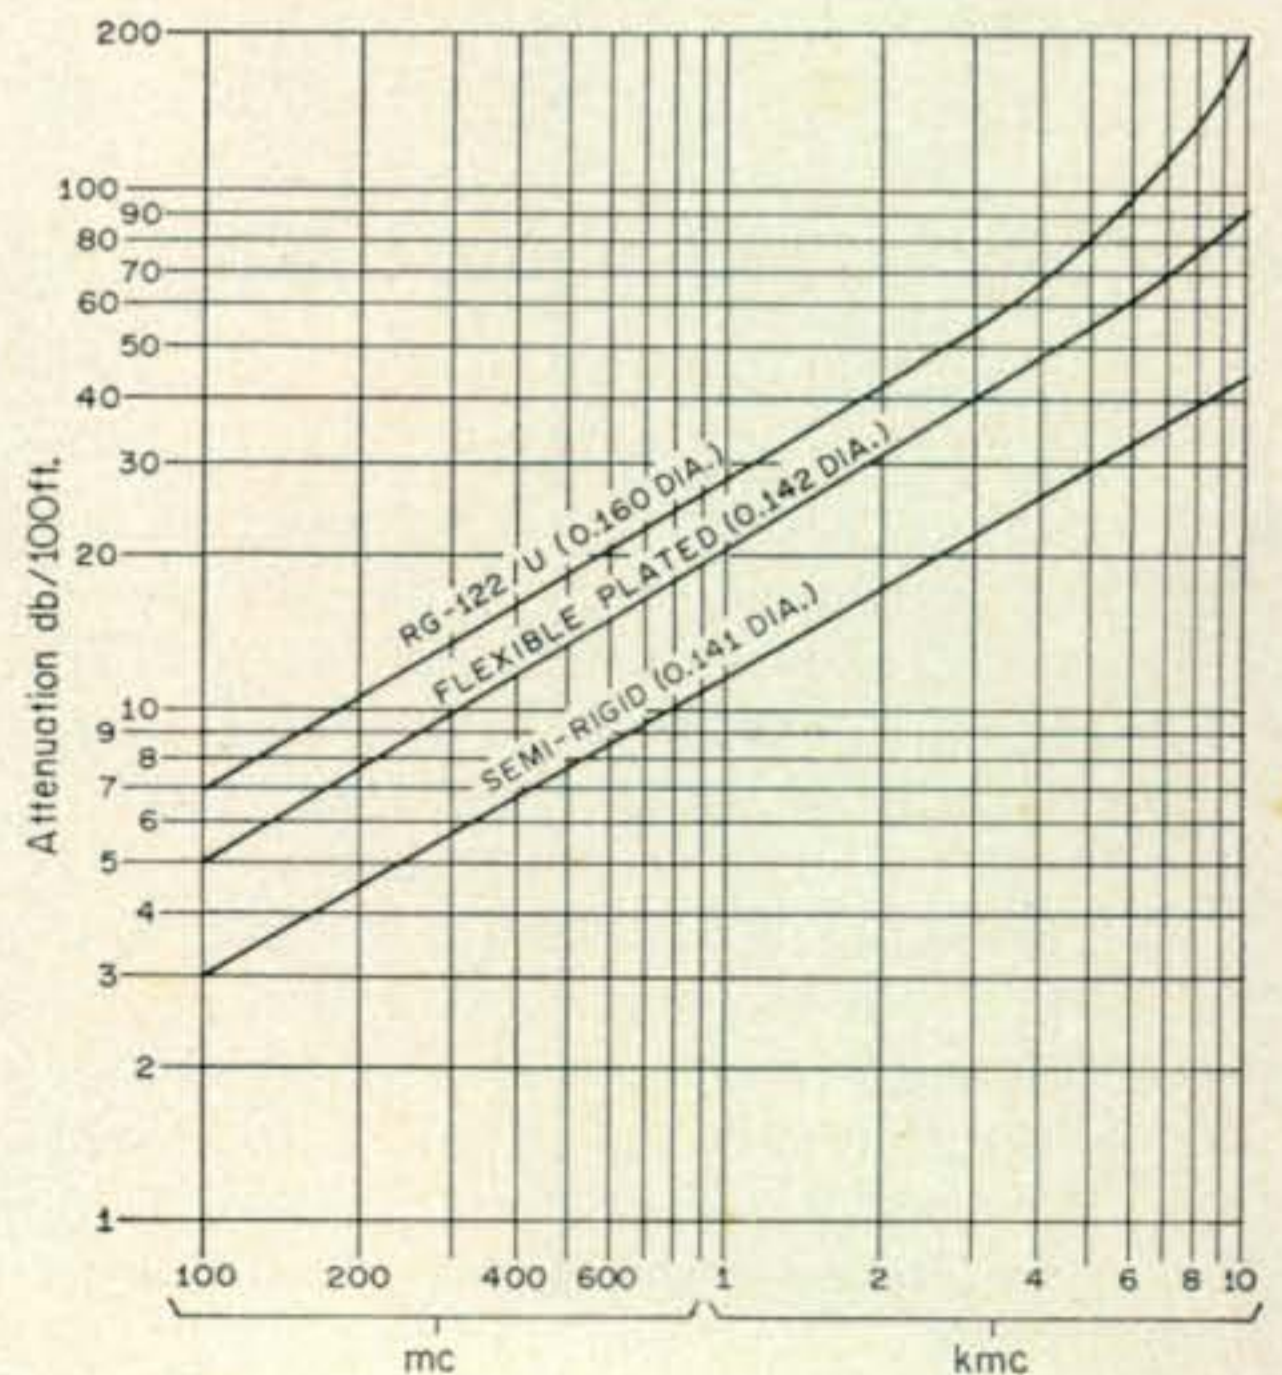
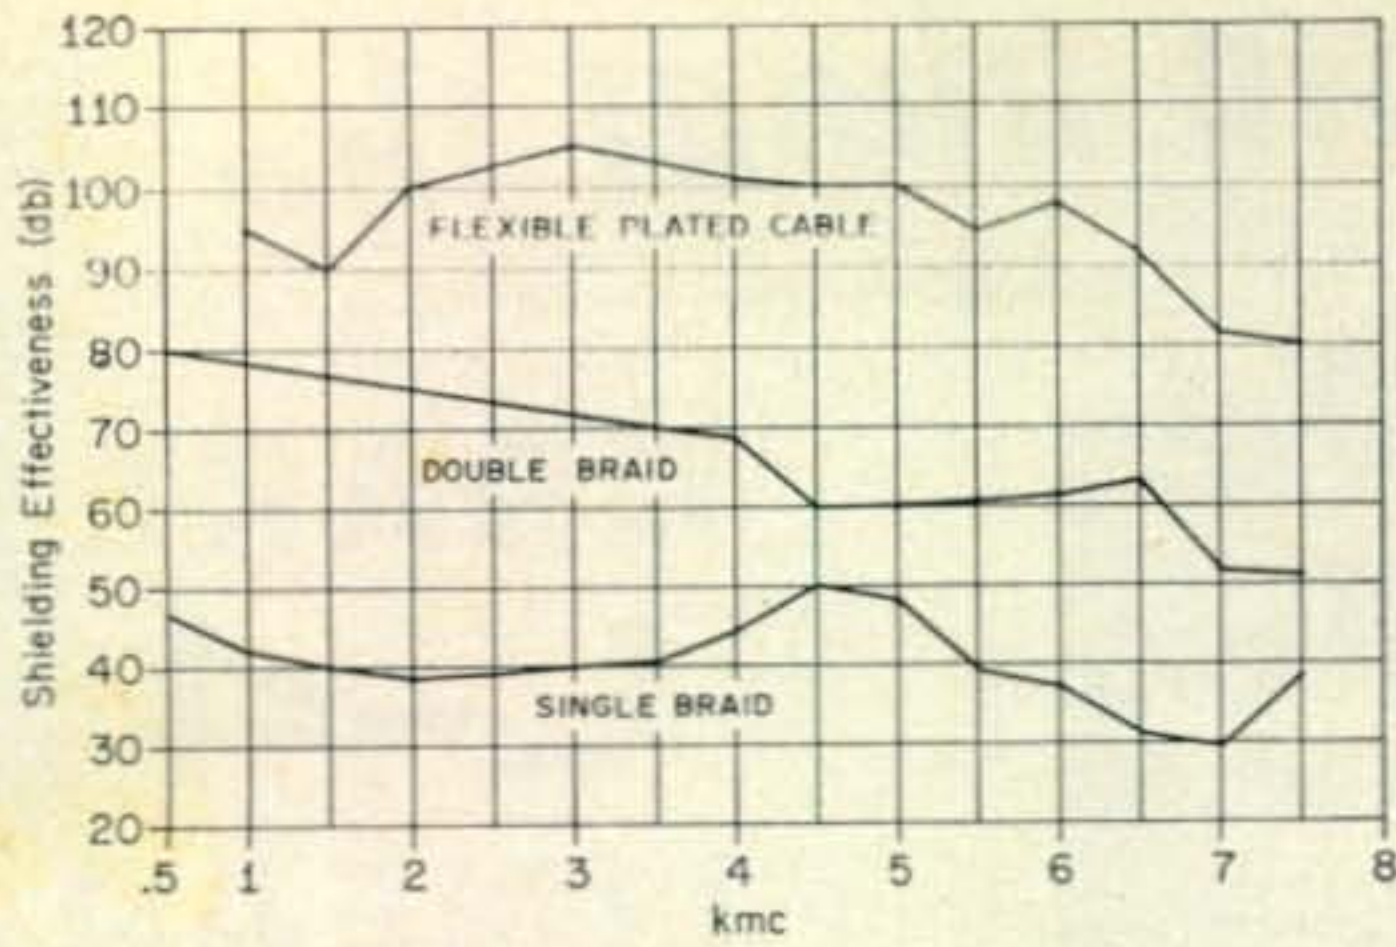

Fig. 2—Attenuation comparison between the new flexible plated coax (0.142" dia.), RG 122/u (0.160" dia.) and semi-rigid coax (0.141" dia.).
Fig. 3—A comparison of the shielding effectiveness of the two presently available types of coax and the new plated type.
Fig. 3—The Tropical Cyclone of fig. 2 photographed by Nimbus II 4 minutes later. The spiral form is now at the lower right photographed from a different angle, since the frame is now centered on Rome at (2). The arch of the Italian Alps is at (1). View this picture at arm's length and the storm area will appear as the demon it was.
The new plated cable, dubbed RG-371/U, has a nominal overall diameter of 0.142" and, though its copper outer conductor is solid, the line is sufficiently flexible to literally be tied in knots. Figure 2 graphs the attenuation of this new coaxial line on the same graph with conventional braided RG-122/U, and 0.141" semi-rigid cable chosen for this test because their physical and electrical characteristics most closely parallel those of the new line. Figure 3 shows a comparative test in shielding effectiveness, and Fig. 4 graphs flex life. Figure 5 is a drawing of the line illustrating the construction technique employed.